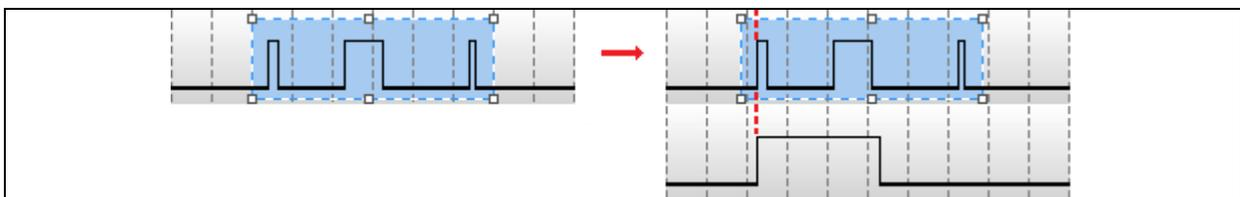

Figure 24
- When only Align to Edge is enabled, the waveform is pasted in such a way that the leftmost edge is aligned to the nearest edge. (Figure 24)
➔ Refer to "3.5.10. Paste" in Figure 24 for how these commands work.